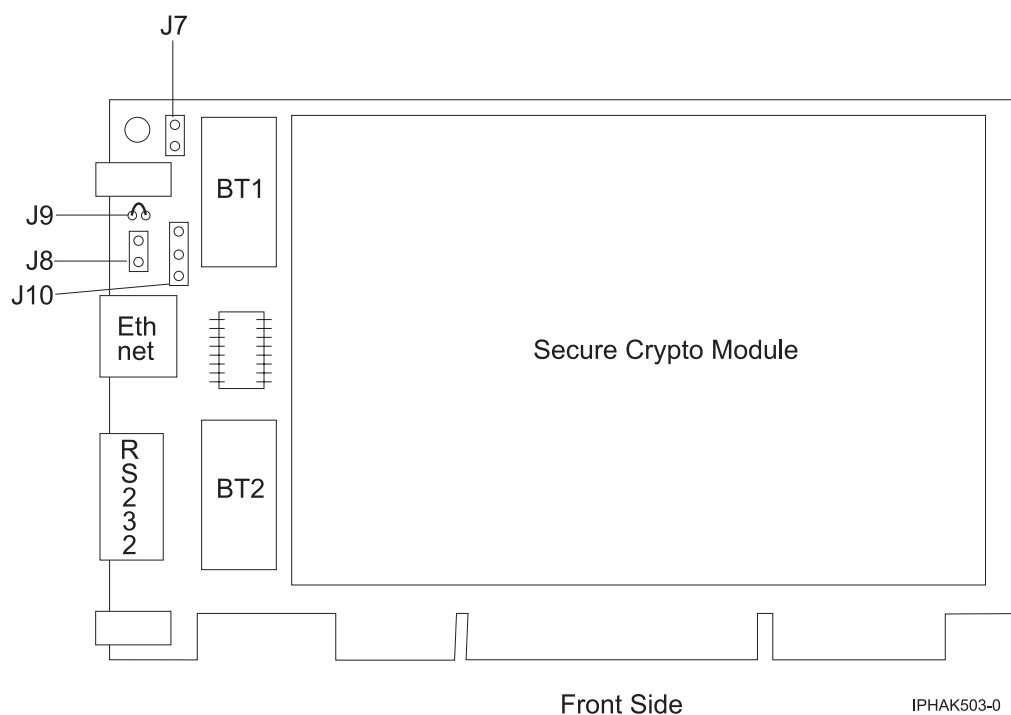

Figure 45. Front side of the adapter
6. Insert one of the new batteries into the battery tray provided with the kit. Align the + on the battery with the + on the battery tray (the end with the red wire). Connect the tray wires to the J10 connector located near the RS-232 serial port, as shown in Figure 45 on page 160. The connector is polarized to ensure a correct connection.